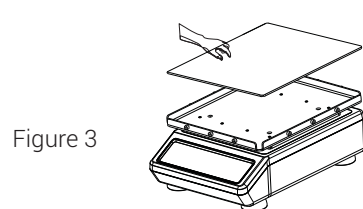

Figure 3
3. Place Rubber Mat onto the Flat Platform as shown in the figure 3.